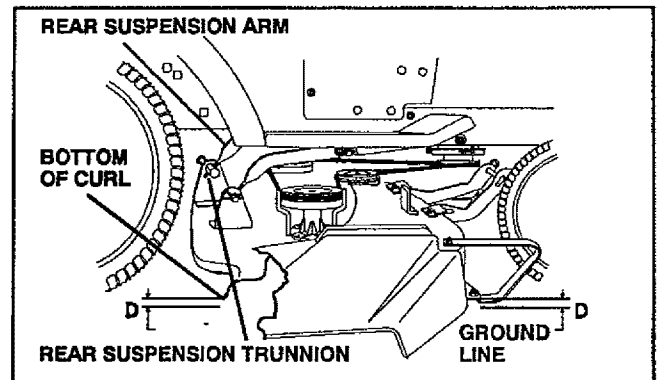

FIG. 22
**FRONT-TO-BACK ADJUSTMENT** (See Figs. 22 and 23) - To obtain the best cutting results, the mower housing should be adjusted so the rear is  $3/4$ "- $7/8$ " higher than the front when the mower is in its highest position.